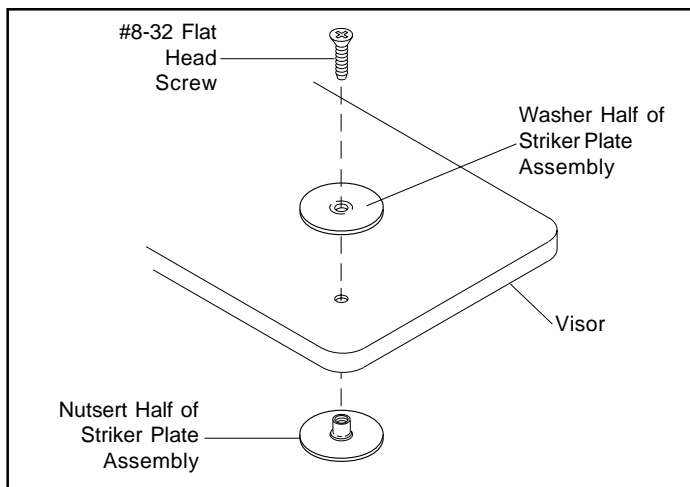

Figure 24 Striker Plate Assembly and Visor
7. Fuse the Red wire (A-contact) of the vehicle harness to the ignition bus with a 3 A slow open fuse. See Figure 24.
8. The Blue wire (C-contact) of the vehicle harness must be fused with a 1 A fast open fuse to the headlamp circuit. When the headlamps are on, the Blue wire should have 12 V applied to it. See Figure 24.
9. Connect the Black wire to the vehicle ground bus. See Figure 24.